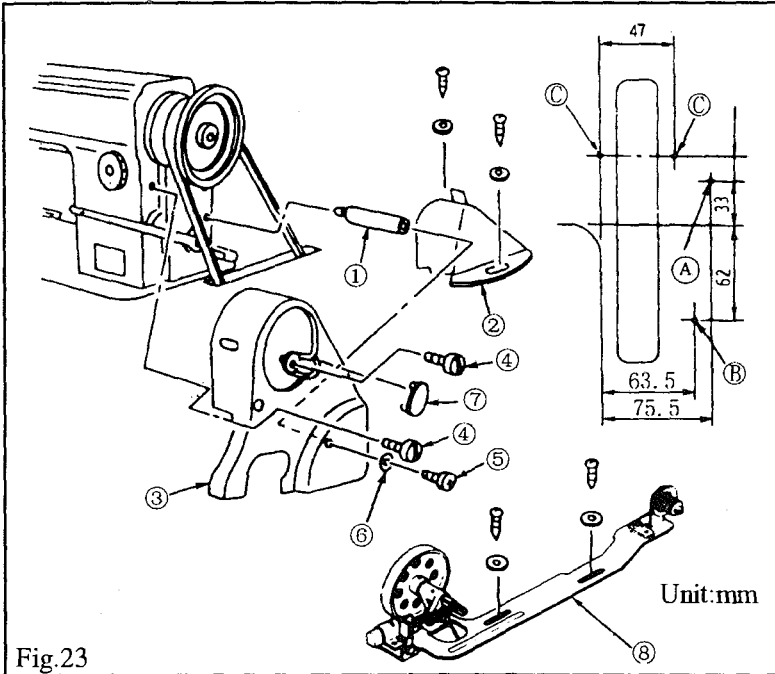
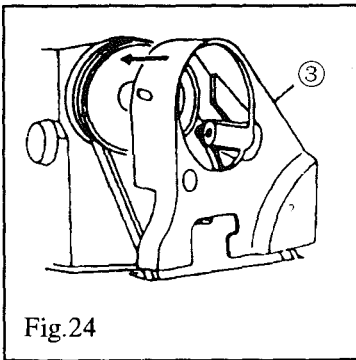

Fig.23
Fig.24
- 1) When sewing heavy-weight materials, move thread guide ① to the left in direction A to increase the length of thread pulled out by the thread take-up.
- 2) When sewing light-weight materials, move thread guide ① to the right in direction B to decrease the length of thread pulled out by the thread take-up.
- 3) When the marker line C on the thread guide ① is aligned with the center of the screw, it is standard.
17. INSTALLING THE BELT COVER AND THE BOBBIN WINDER (Fig. 23, Fig. 24, Fig. 25)